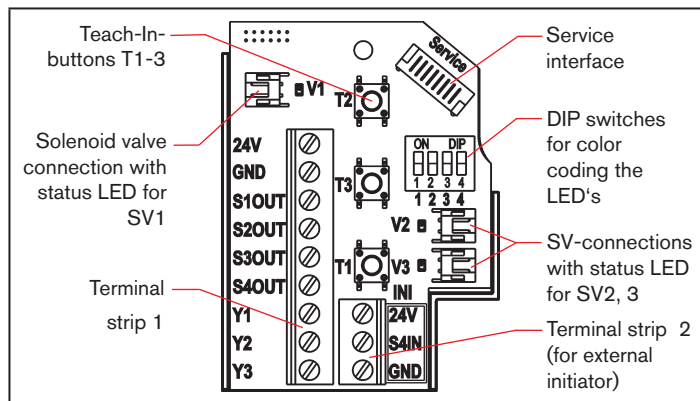

Fig. 4: Electronics module (24 V DC)
- Secure the wires to the terminal strips according to the pin assignments depicted in "Fig. 4"
An **external initiator** can be connected using the small 3-pin terminal strip 2 (see "Fig. 4" or manual, chapter „Connection of an external initiator“).